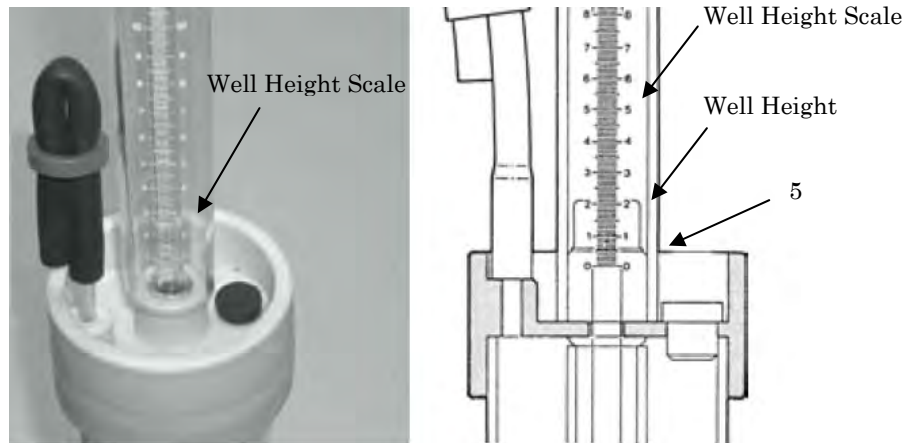

*Fig. 26. Connecting Upper Air Tube to Middle Air Tube.*
**Make sure that the Well Height Indicator is in place** before connecting the Upper Air Tube to the Middle Air Tube (Fig. 26 left). The Upper Air Tube is connected to the top of the Middle Air Tube with an Air Tube Coupling. Again, when connecting the Air Tube sections, be sure that the ridges on the inside of the coupling fully snap into the grooves on the ends of the Air Tube sections (Fig. 26 right).
**Fully seat the Air Inlet Tip into the Air Tip Seating Washer** by pushing down on the Upper Air Tube. Once the Air Inlet Tip is seated, lower and seat the Well Height Indicator flush against the Reservoir Cap, as shown in Fig. 26, right.